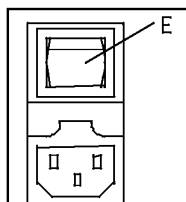

Fig. 13
- Press the ON/OFF switch **E** on the DR 100. **Fig. 13**